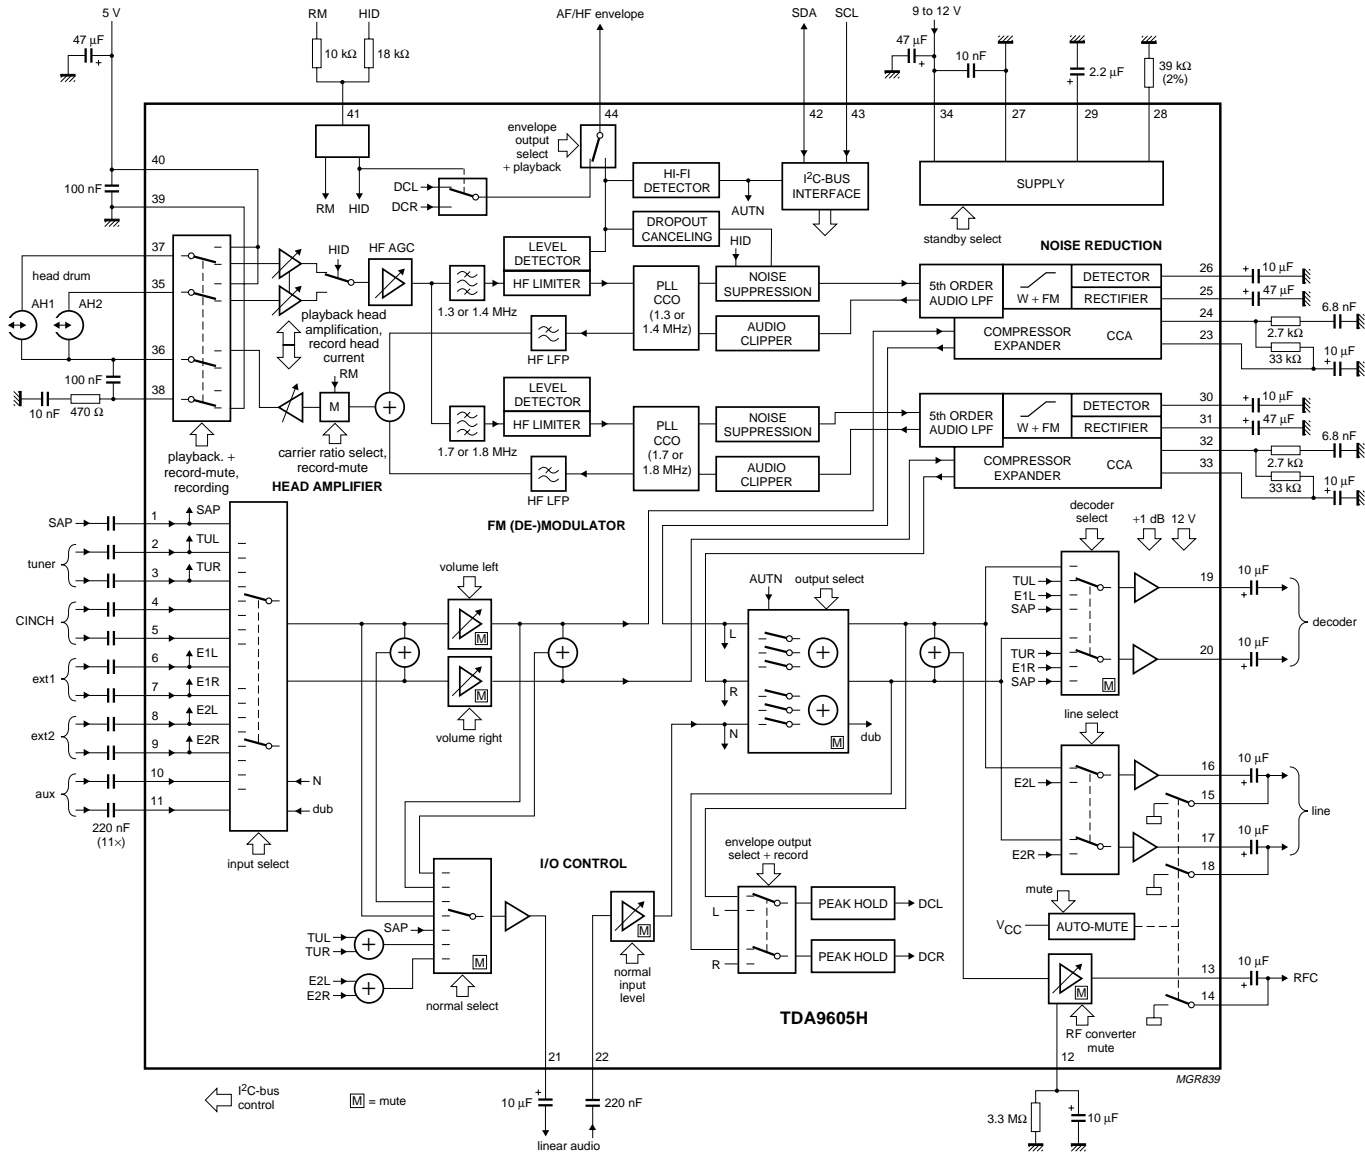

Fig.14 Application diagram.
**13 PLAYBACK MODE CHARACTERISTICS** $V_{CC} = 12\text{ V}$ ;  $T_{amb} = 25\text{ °C}$ ; measured in typical application circuit of Fig.14; unless otherwise specified.